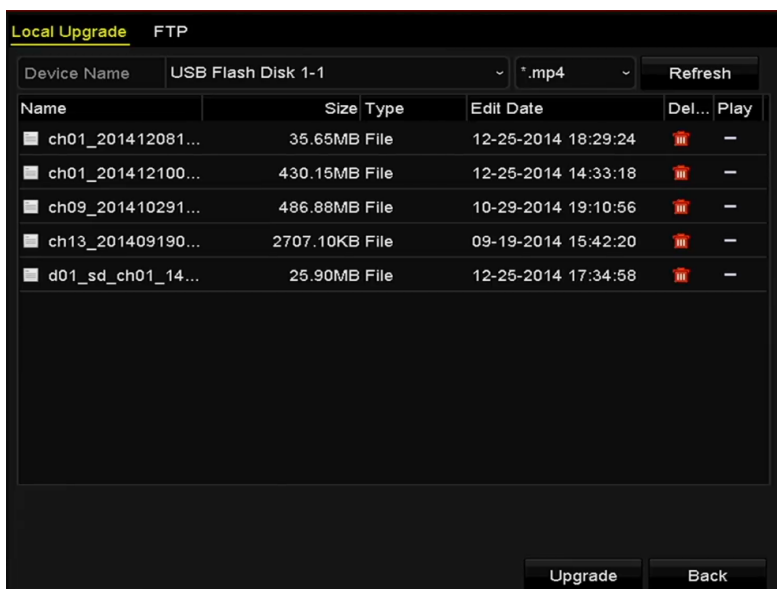

Figure 13-7 Local Upgrade Interface
Step 4 Click the **Local Upgrade** tab to enter the local upgrade menu, as shown in Figure 13-7.